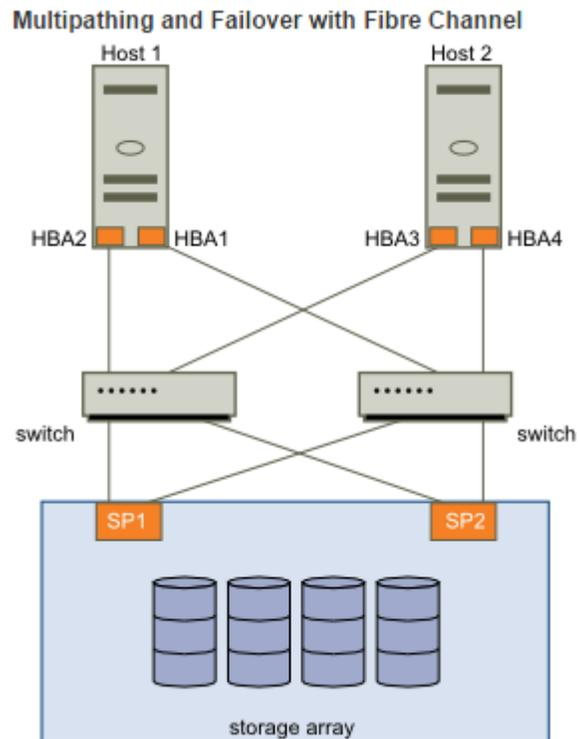

Figure 1 (Source: VMware)
Datacenters, in order to insure reliability and increase performance, have best practices in place to minimize “single point of failures.” For example, and as shown in Figure 1, we see that multiple hosts are connected to multiple switches via various paths to multiple storage processors (SP) to a storage